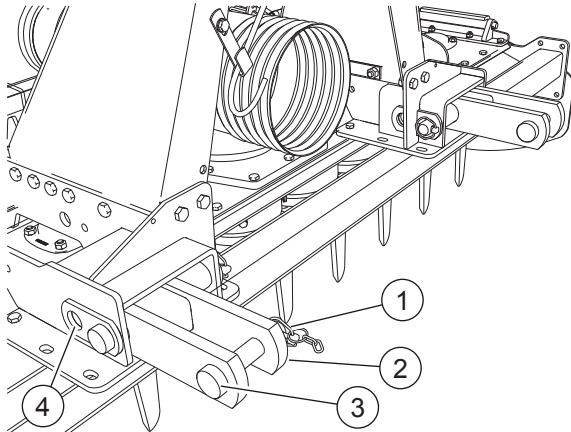

FIG. 26
- Remove the spilt pin (1, "Fig. 26").
- Take out the pin (3).
- Take out and rotate at 180° the tractor hitch (2).
- Insert the pin (3).
- Fasten the pin with the spilt pin (1).